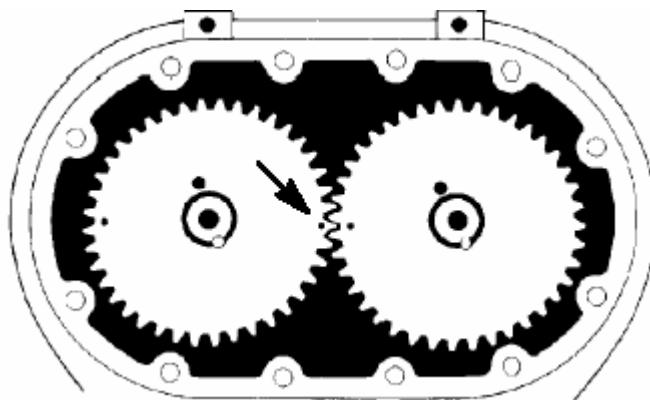

FIGURE 6-2
5. If timing gears appear to be reusable, match mark timing gear tooth mesh by making small punch marks on the ends of meshing gear teeth with a pin punch and hammer (see FIGURE 6-2, page 25). The impeller tip to valley (throat) and the case to headplates should also be matchmarked to facilitate blower reassembly.